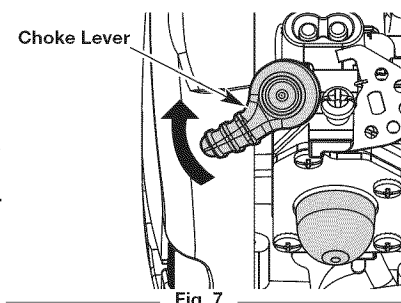

Fig. 7
4. Flip the choke lever clockwise until it clicks (Fig. 7).